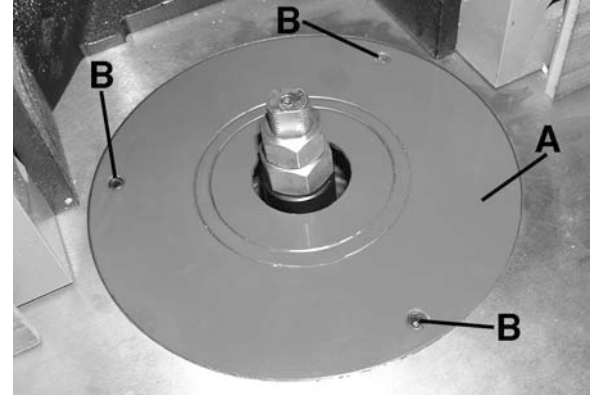

FIGURE 16
This shaper comes with 3 table inserts (A) Fig.16 which give you four possible opening diameters in the shaper table surface. Use the smallest opening that a particular cutter will allow. This offers more support for the workpiece and reduces the amount of chips that can fall down into the machine. The correct spindle opening will also allow any unused portion of the cutter to remain below the table surface, increasing operator safety.
- 2) If an adjustment is necessary, using the appropriate hex. key, turn the three set screws (B) Fig.16 clockwise or counterclockwise to raise or lower the cast iron table insert (A).